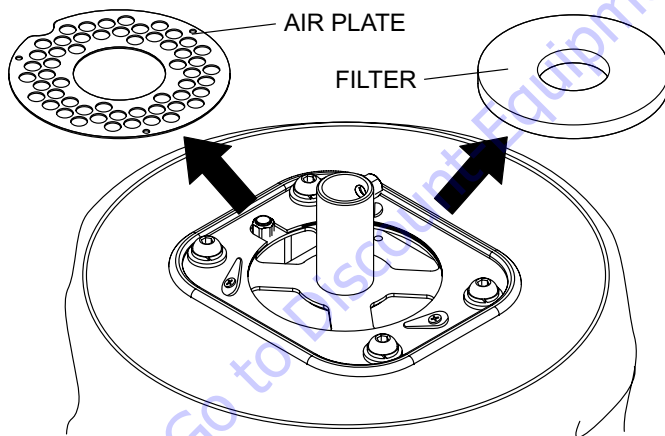

Figure 35. Filter Removal
4. Remove the air plate and filter. See Figure 35.